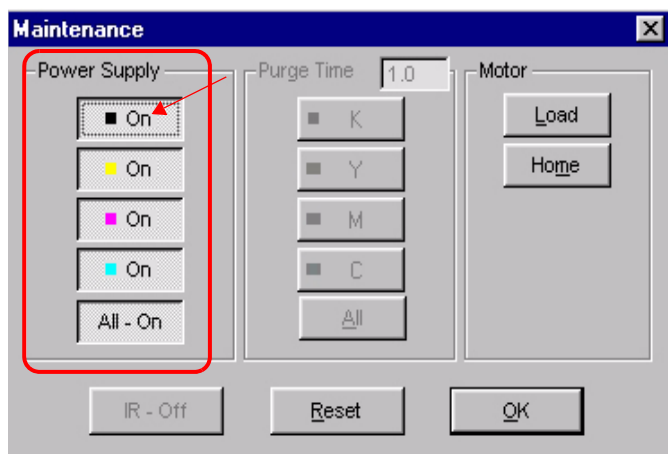

Figure 29. Maintenance Dialog Box - 35V Power ON
The Maintenance dialog box opens - see Figure 29.
- Under the *Power Supply* controls, turn **OFF** the 35V power supply to the heads that use *black ink* by clicking the black button at the top (which is currently in the *On* status as shown in Figure 29),